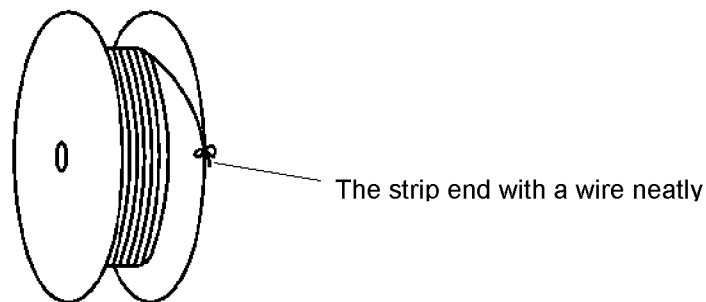

Fig. 5
(3) Avoid storing the contact reel in a moist or dusty place. Stock the reel in a comparatively dry and clean place (5~35°C, 45~85%RH) away from direct sunlight.
(4) When removing the contact reel from the machine, fasten the end of contact strip onto the edge of the reel with use of proper string or wire. (See Fig.5)